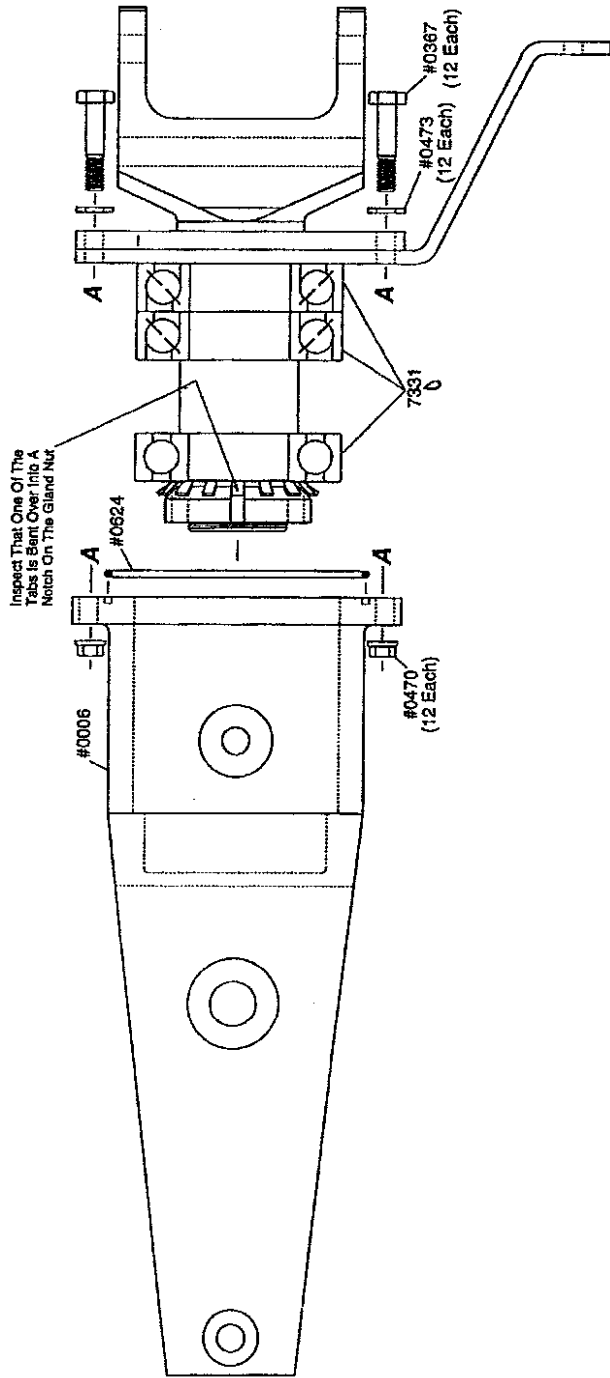

Fig 1 - Disassembled View For A.D Compliance
4. Remove twelve #0367 bolts, #0470 nuts, and #0473 washers. See Fig. 1
6. Check to insure that one of the tabs on the locking ring is bent up into the slot in the gland nut. See Fig. 1.